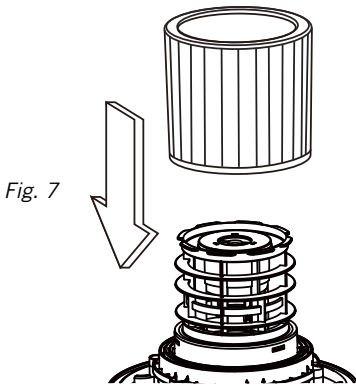

Fig. 7
16. Install the cartridge filter 19 over the filter cage making sure the cage is completely covered. Fig. 7.